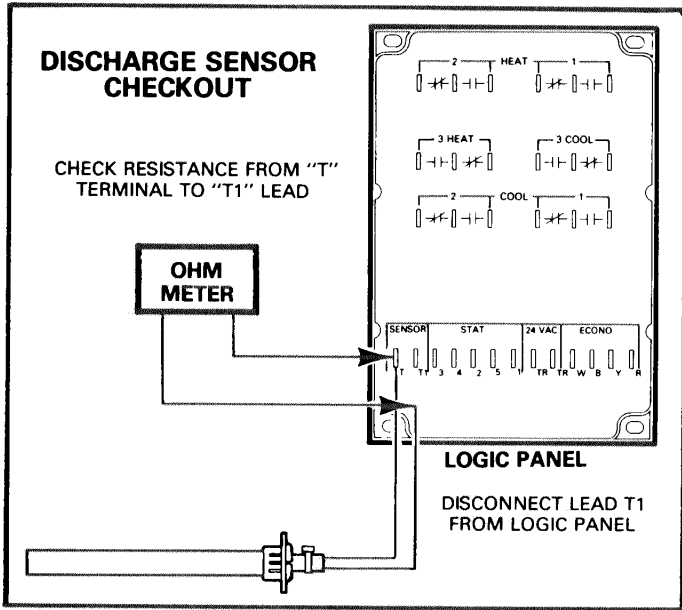

FIGURE 22
- 3 - Disconnect the lead from sensor terminal T1 on logic panel. Connect one lead to terminal T and the other meter lead to loose lead wire from the sensor. See Figure 22. Record temperature at discharge sensor.